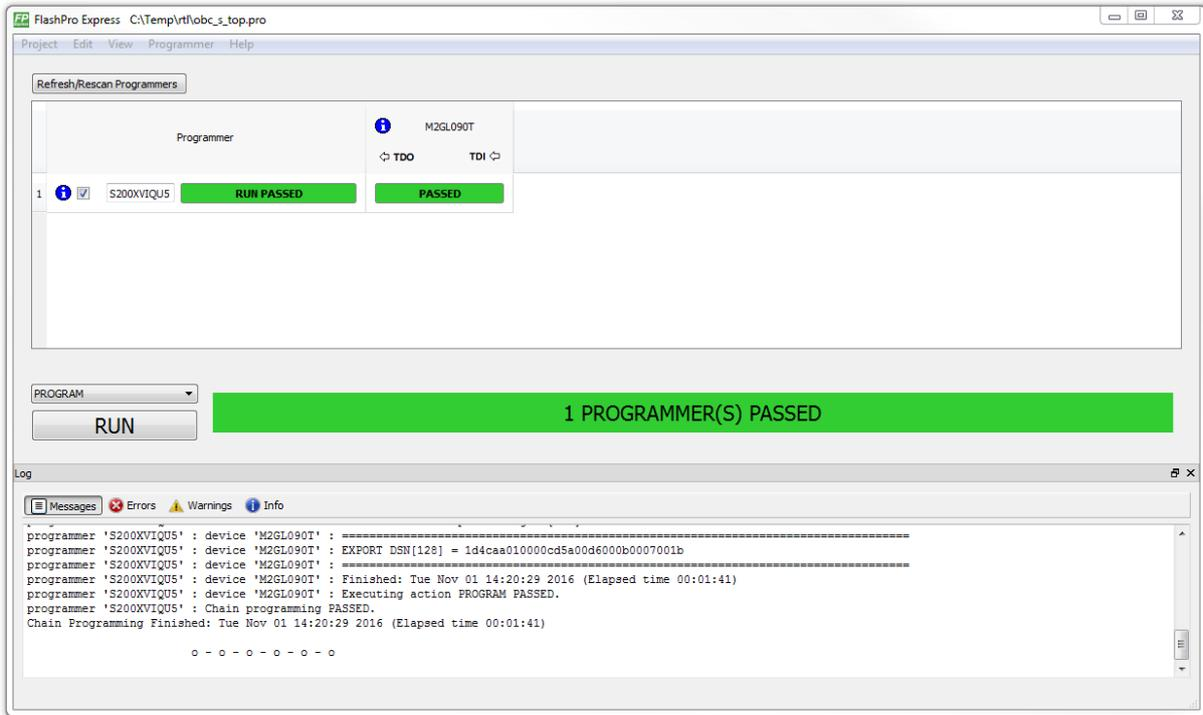

Figure 10-3 - View of FlashPro Express after program passed.
- The FPGA should now be loaded with the new firmware, which might take a few minutes. Once it is finalized the second last message should be “Chain programming PASSED”, see Figure 10-3.